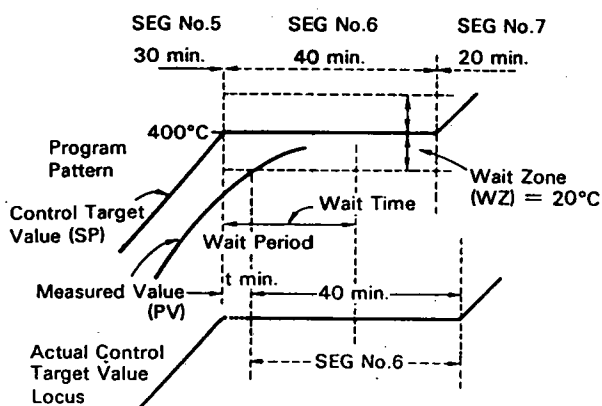

Figure 5.2 PV Comes within the Wait Zone
The measured value (PV) reaches the wait zone  $t$  minutes (within the wait time) after the program starts wait action and then the program proceeds to the next segment. In this example, PV is late to SP (control target value) but if PV exceeds the SP, the same principle applies (see Figure 5.2).